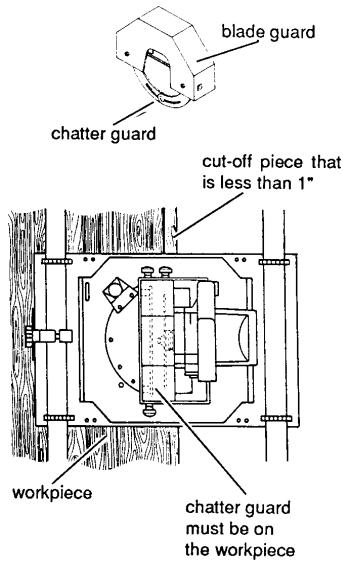

Figure 28: Chatter Preventer (H Series shown, in position for crosscutting)
11. When making cuts that are less than 1 inch (25.4mm), the chatter guard (located inside the blade guard) must be resting on the work piece, not on the cut-off piece. See Figure 28. If it is not positioned this way, it will jam the work piece and prevent the carriage from continuing through the cut. If the saw jams, turn the tool OFF and wait for the blade to stop. Then back the saw out of the cut.
- When making cuts that are less than 1 inch, the chatter guard (located inside the blade guard) must be resting on the work piece, not on the cut-off piece. See Figure 28. If it is not positioned this way, it will jam the work piece and prevent the carriage from continuing through the cut. If the saw jams, turn the tool OFF and wait for the blade to stop. Then back the saw out of the cut.